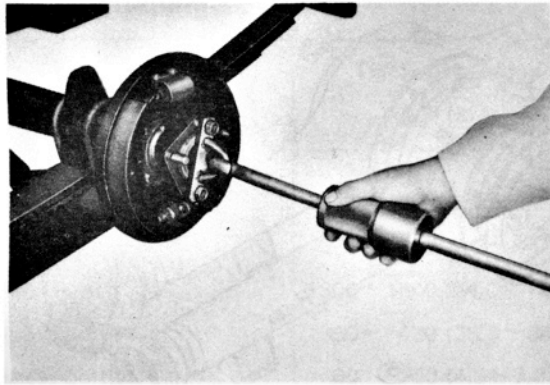

Fig. 4-3.
- 8) Take out the four (4) bolts retaining the back plate.
- 9) Install the special tool (rear axle shaft puller-09922-66010) in position as shown in the Fig. 4-3 and drive out the shaft with the aid of a sliding hammer.